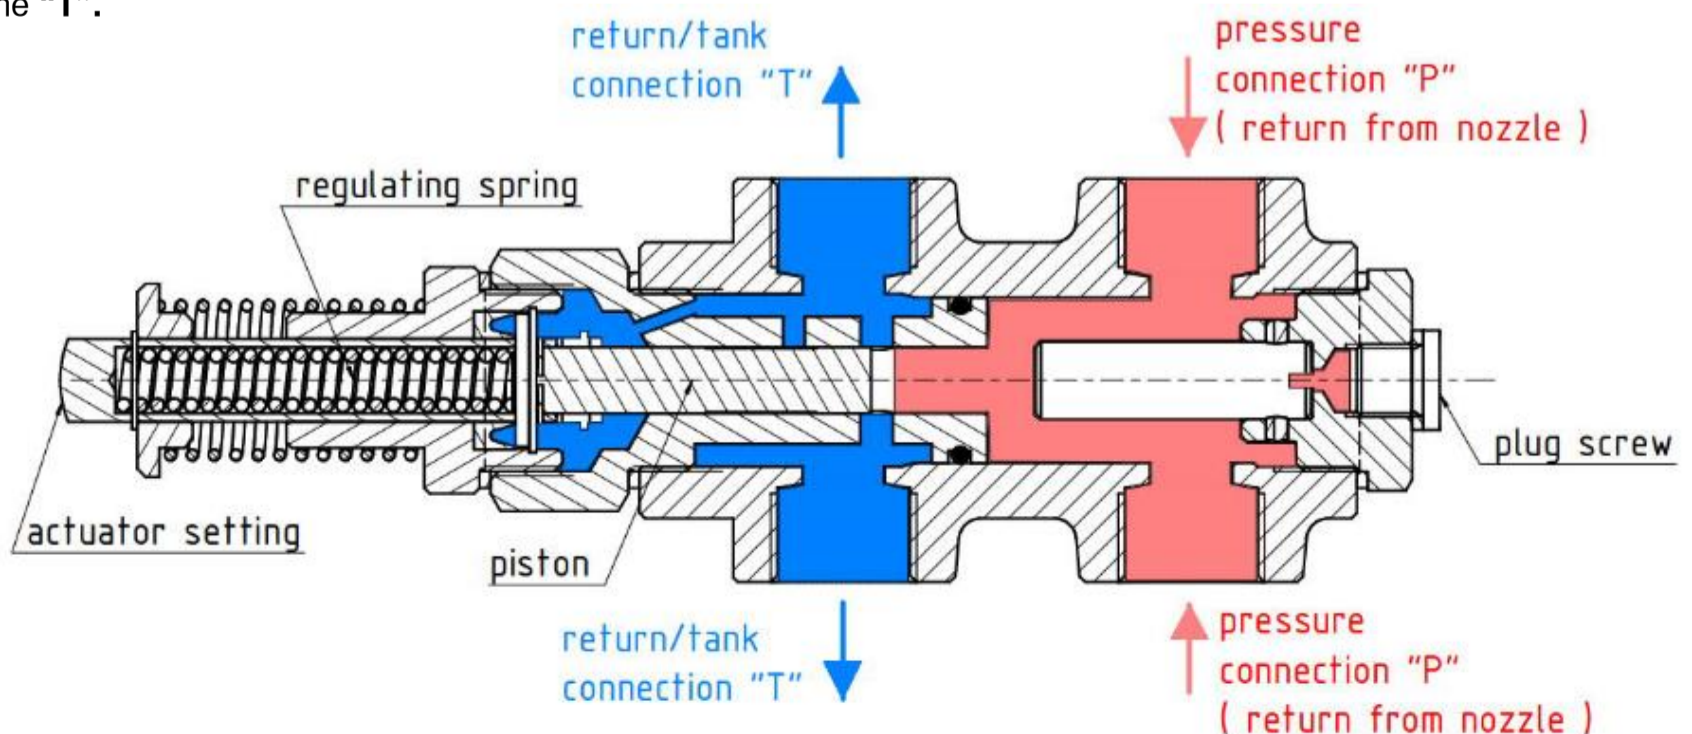

Fig.1 Operating principle
- Should there be no manometer attached, please remove the plug screw and fit one to the manometer connection G1/4" respectively G 1/8" (Fig. 1).
- Now switch on the unit's pump. For a reading of the set value, Section 4.13 of DIN EN 12514-2, Issue 2000 calls for a manometer to be attached to the unit. Should there be no manometer attached, please remove the plug screw (see Fig.1) and fit one to the manometer connection.